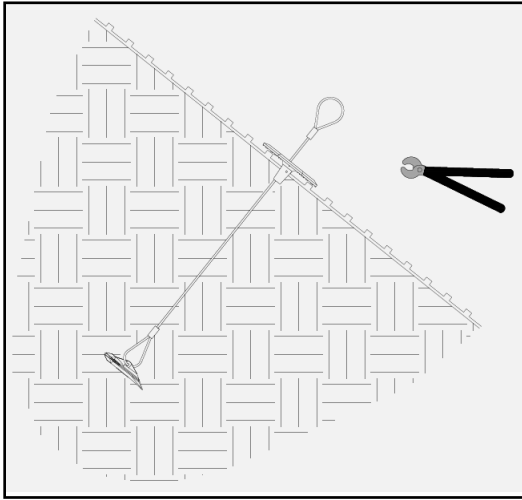
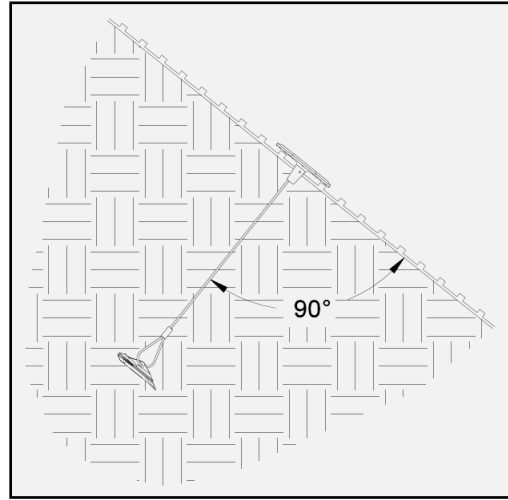

Figure 10: Trim Extra Cable Flush to Plate
Figure 11: Complete Type B1 Anchor Installation
8. Once anchors have been load-locked, cut off the excess looped anchor tendon flush to the plate at the slope surface using wire cutters. (Figure 10 and Figure 11)